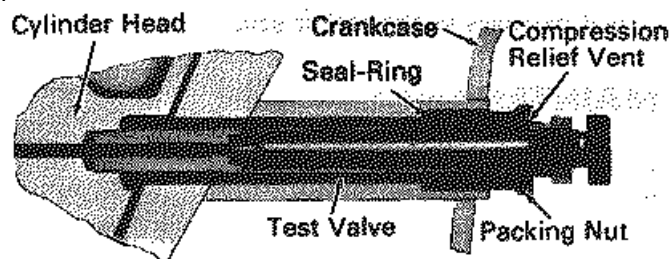
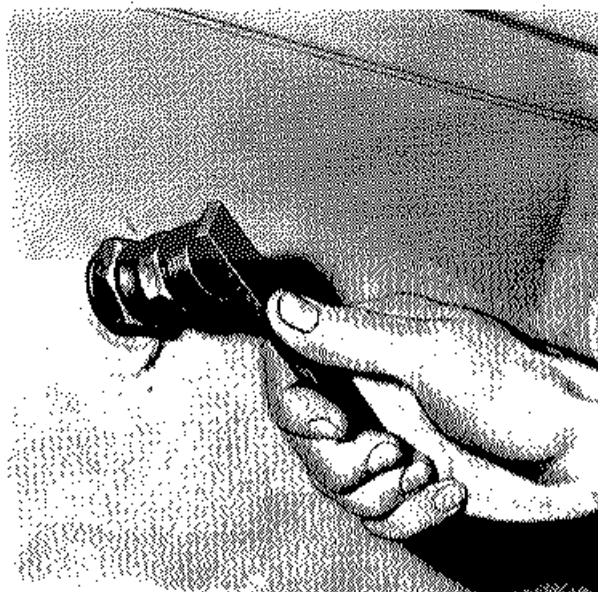

Fig.2-32-Cylinder Test Valve
Fig.2-33-Test Valve Wrench
Cylinder test valves, Fig. 2-32, are provided on the engine at each cylinder. Any time maintenance or inspection is performed, the valves are opened to relieve compression, reducing the effort required to rotate the crankshaft. With the test valves open, fuel and coolant leaks can be detected by fluid discharge at the valves while the engine is being barred over. The cylinder test valve is inserted in a housing within the crankcase and screwed into the cylinder head. A cylinder test valve wrench, Fig. 2-33, is used to open and close the valves.
1. If a cylinder test valve is leaking, check that packing nut, Fig. 2-32, has been torqued to the specified value. If nut has been overtightened, change seal-ring, Fig. 2-32, and correctly torque packing nut. Should valve continue to leak, remove the valve from the engine and ream the valve seat as shown in Fig. 2-34.